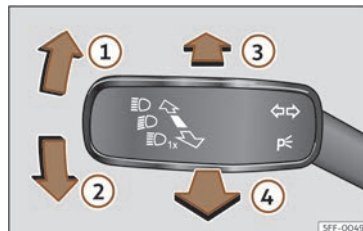

Fig. 93 Turn signal and main beam lever (depending on the version).
- From the base position, press the turn signal and main beam headlights lever forwards »» **Fig. 93**
- **OR:** while the main beam is on, pull the turn signal light and main beam headlights lever forwards»» **Fig. 93** .